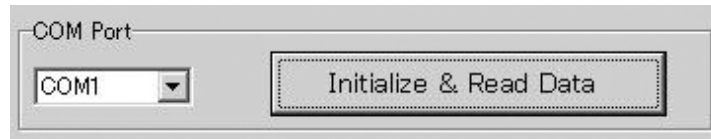

Figure 60
- 4. Select a COM port to which Data Cable is connected. (Figure 60)
- 5. Press the "Initialize & Read Data" button. (Figure 60)